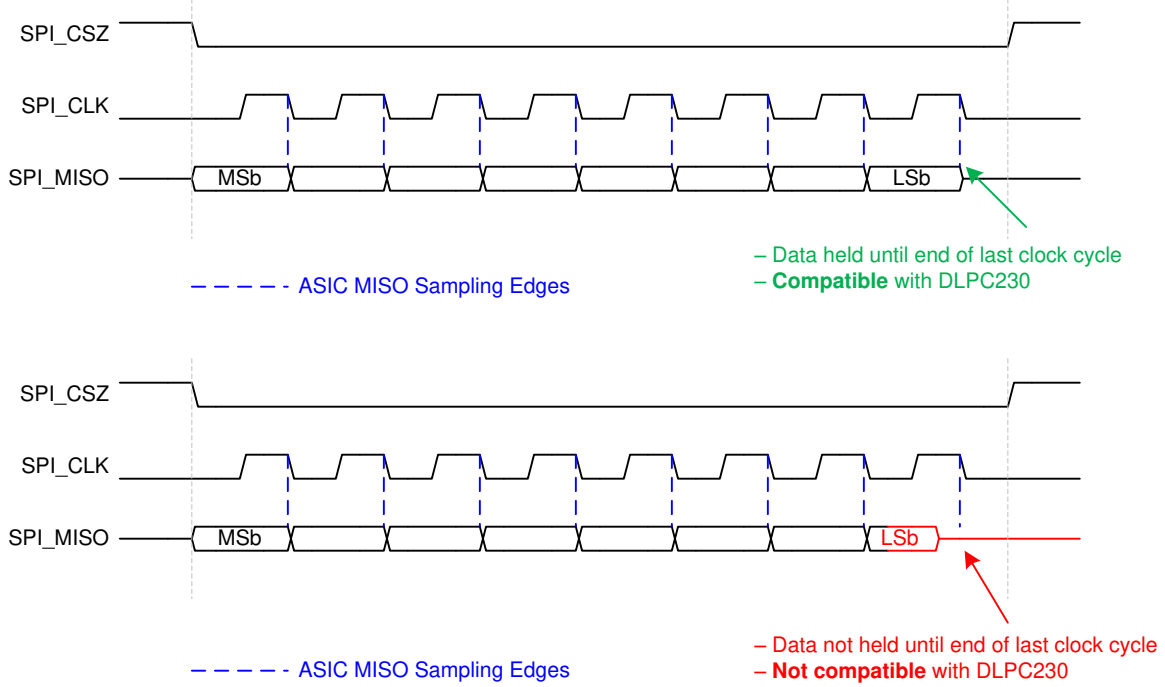

Figure 6-8. Flash Interface Data Capture Requirements
- (1) The DLPC23xS-Q1 communicates with flash devices using a slight variant of SPI Transfer Mode 0 (that is, clock polarity = 0, clock phase = 0). Instead of capturing MISO data on the clock edge opposite from that used to transmit MOSI data, the DLPC23xS-Q1 captures MISO data on the same clock edge used to transmit the next MOSI data. As such, the DLPC23xS-Q1 Flash SPI interface requires that MISO data from the flash device remain active until the end of the full clock cycle to allow the last data bit to be captured. This is shown in Figure 6-8.
- (2) The actual maximum clock rate driven from the DLPC23xS-Q1 can be slightly less than this value.